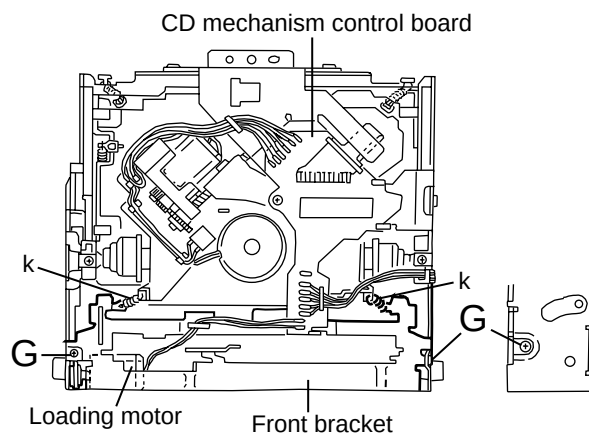

Fig.3
■ Removing the heat sink (See Fig.3)
(See Fig.3 to 5)